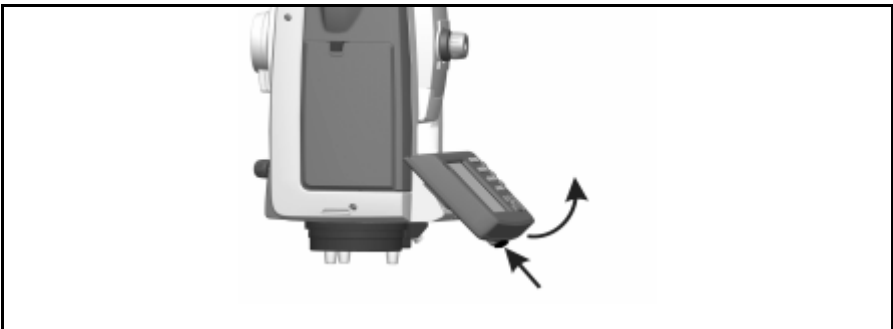

Figure 3.4 Unlocking the CU from the instrument
2. Push the lock release button at the bottom of the CU and then lift the bottom of the CU away from the instrument. Figure 3.4.